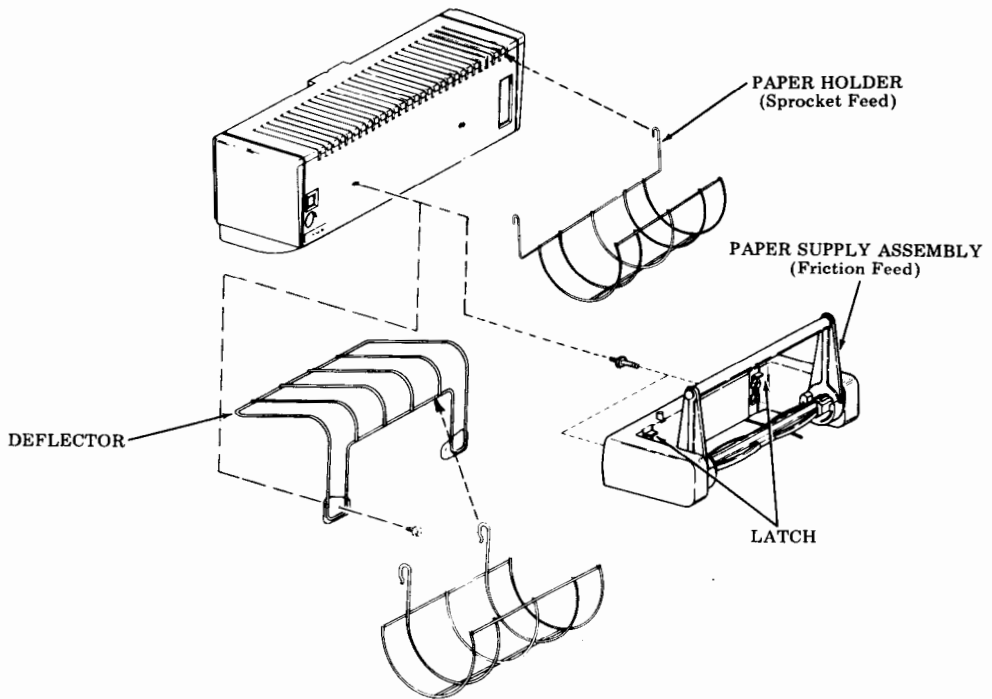

Fig. 6—Paper Holder and Paper Supply Assembly
3.16 To remove the paper supply assembly, disengage latches from mounting posts by pulling straight up. Slide assembly from mounting posts (Fig. 6).
3.19 Attach the paper holder to the deflector if present, otherwise attach it to the bustle cover as shown in Fig. 6.